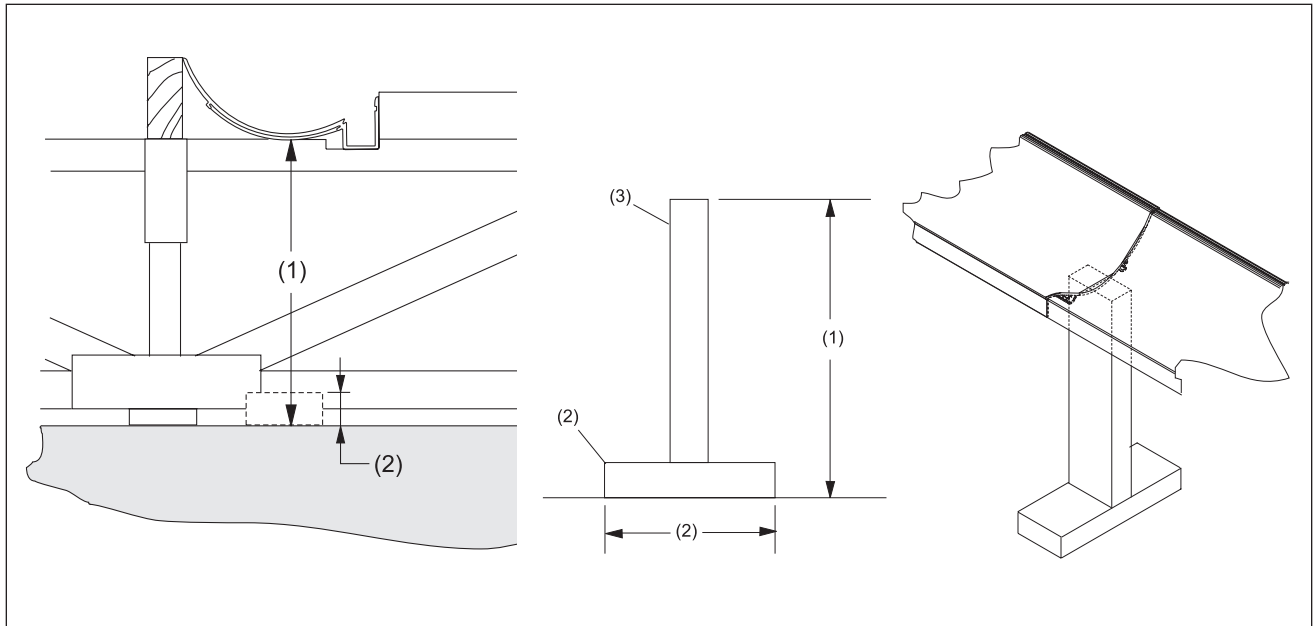

Figure 14. Gutter Joint Support Brace (If Required)
1. Measure the distance between the bottom of the installed gutter to the concrete floor. Refer to *Figure 14*.